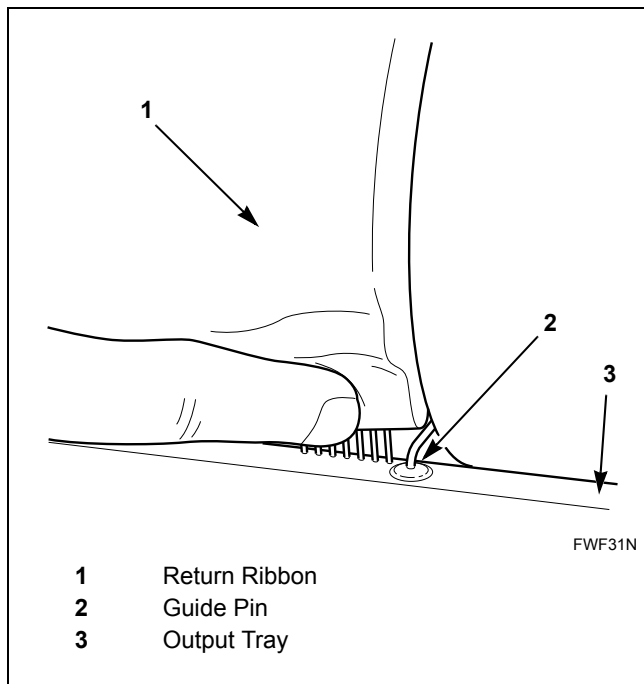

Figure 36
13. Verify that new return ribbon is placed in between the guide pins of output tray in front of machine. Refer to *Figure 36*.